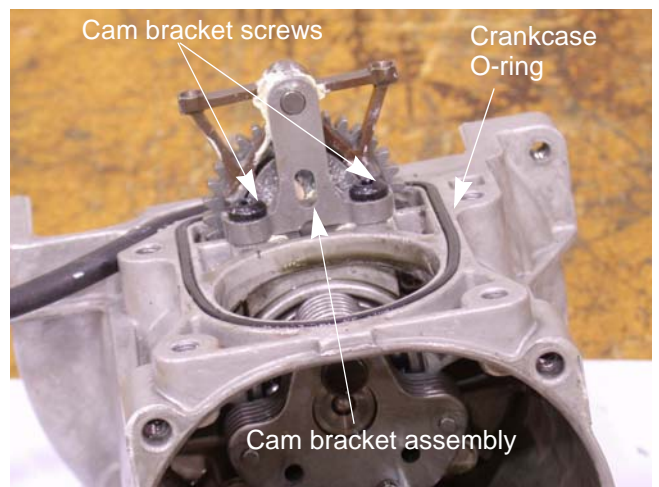

Figure 8.14
34. Remove the cam bracket assembly using a T-20 torx driver. See Figure 8.14.